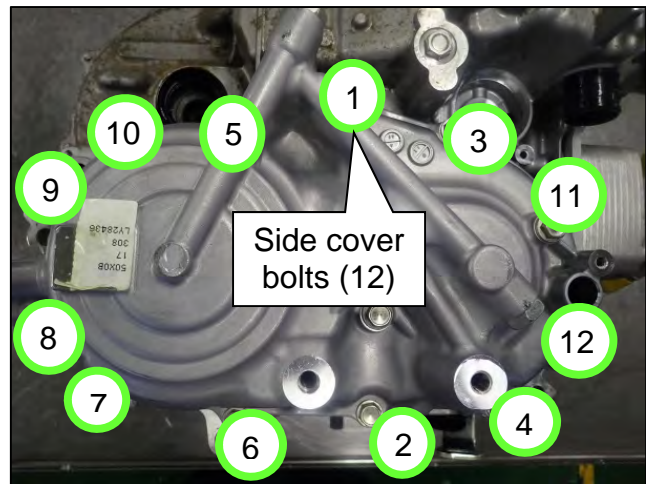

Figure 211
182. Install twelve (12) new side cover bolts, and then torque all of the side cover bolts to the specified torque in the sequence shown in Figure 211.